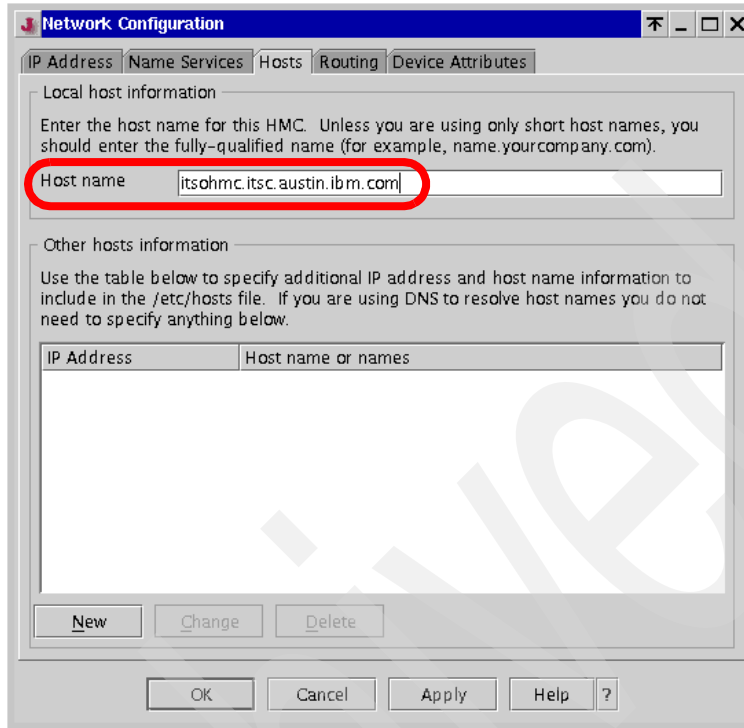

Figure 4-8 Network Configuration: Hosts tab
1. Select the **Hosts** tab in the Network Configuration window, as shown in Figure 4-8 on page 87.
2. Enter the host name of your HMC in the Host name field, as shown in Figure 4-8.